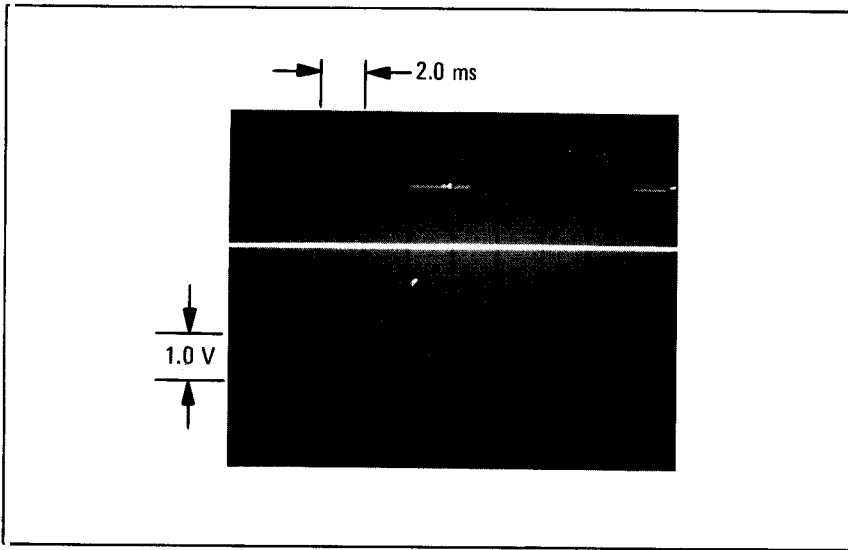

Figure 2. Display of Signal at J2-Pin 12 as the LF Loop is Locking (with dc coupling; external triggering to J3-Pin 4)
3. Increment the frequency up 10 MHz and check Figures 2 through 5 as the LF Loop locks.